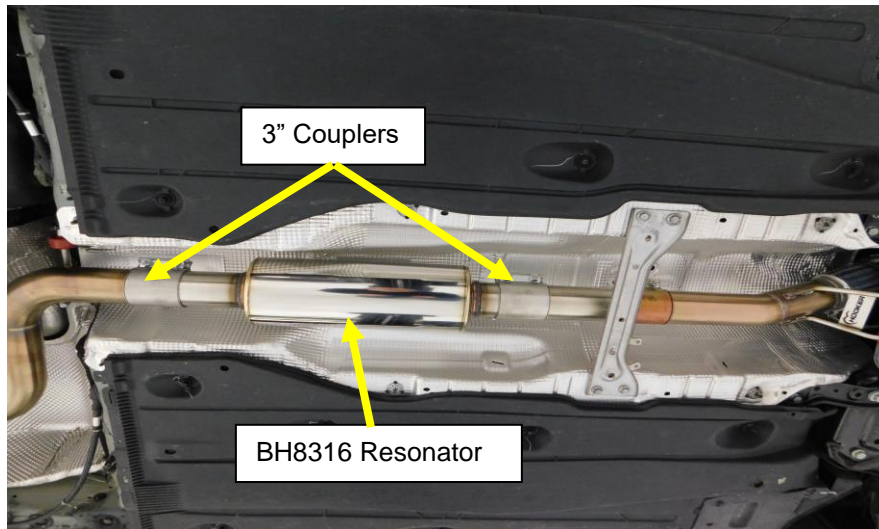

Figure 2
2. Slide the coupler from the BH8317 race pipe or OEM down pipe on to the BH8316 resonator with a 50/50 split between the pipes and tighten the bolts to allow for adjustment (**Figure 2**).
3. Slide the coupler from the BH8315 muffler pipe on to the BH8316 resonator with a 50/50 split between the pipes and tighten the bolts to allow for adjustment (**Figure 2**).